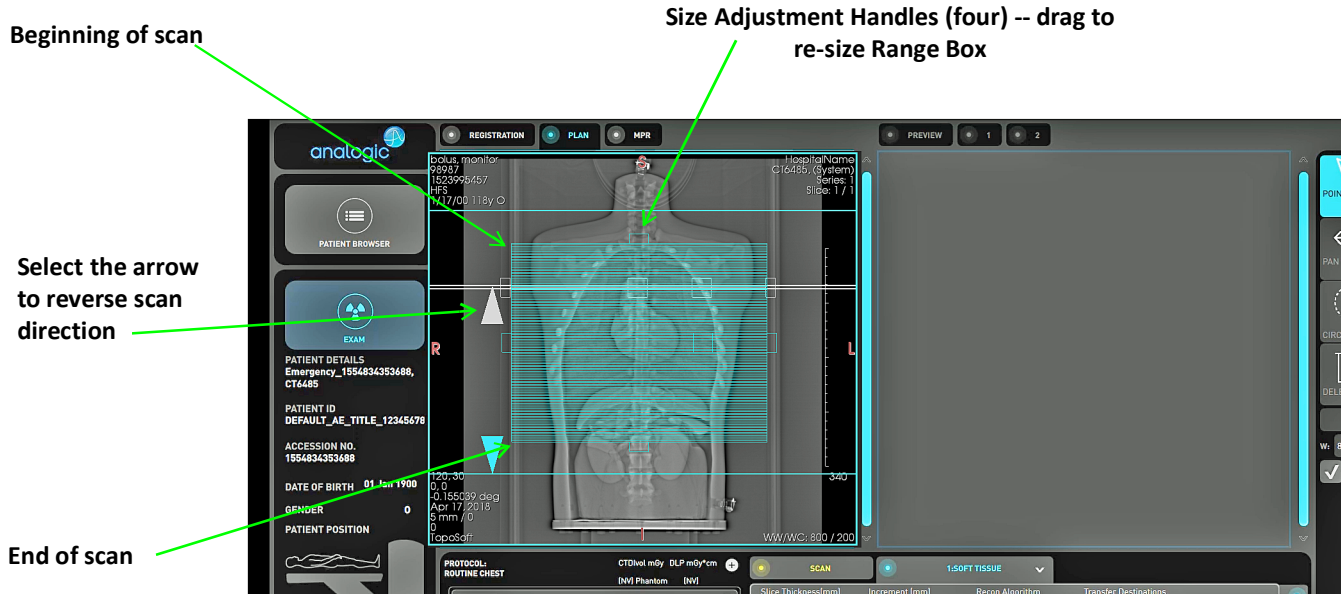

FIGURE 5.25 Range Box
The system now selects the exam protocol and the Range Box appears immediately (FIGURE 5.25).
10. The Range Box determines the area which will be scanned. It shows the thickness of the slices and the distance between slices. Adjust the Range Box size and the scan direction as shown in FIGURE 5.25.